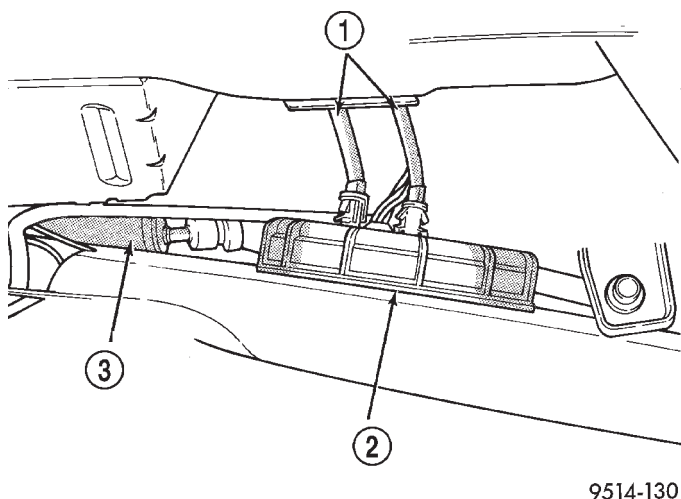

Fig. 13 Fuel Lines at Fuel Pump Module
- (6) Disconnect fuel lines from fuel pump module (Fig. 13). These are quick connect fittings. Refer to Quick Connect Fittings in this section.